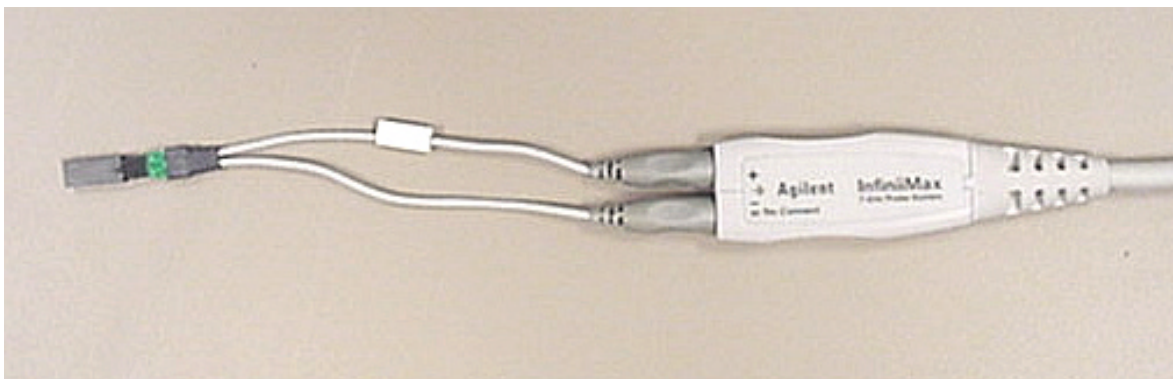

Figure 1. Differential Probe Setup
- b. Attach the header adapter to the socketed probe head (Figure 1).